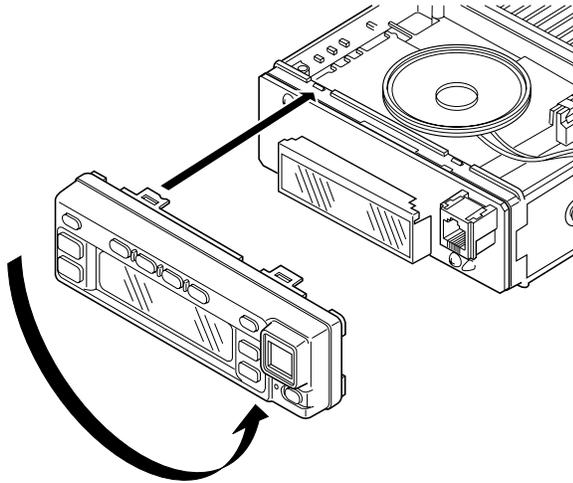

Fig. 14 / 图 14
6. Rotate the control panel 180 degrees and mount it on the transceiver. Refit the two halves of the case to complete installation. (Fig. 14)
6. 将控制面板旋转180度并且装配在车台机上。重新将两部分机壳装好并完成安装。(图14)